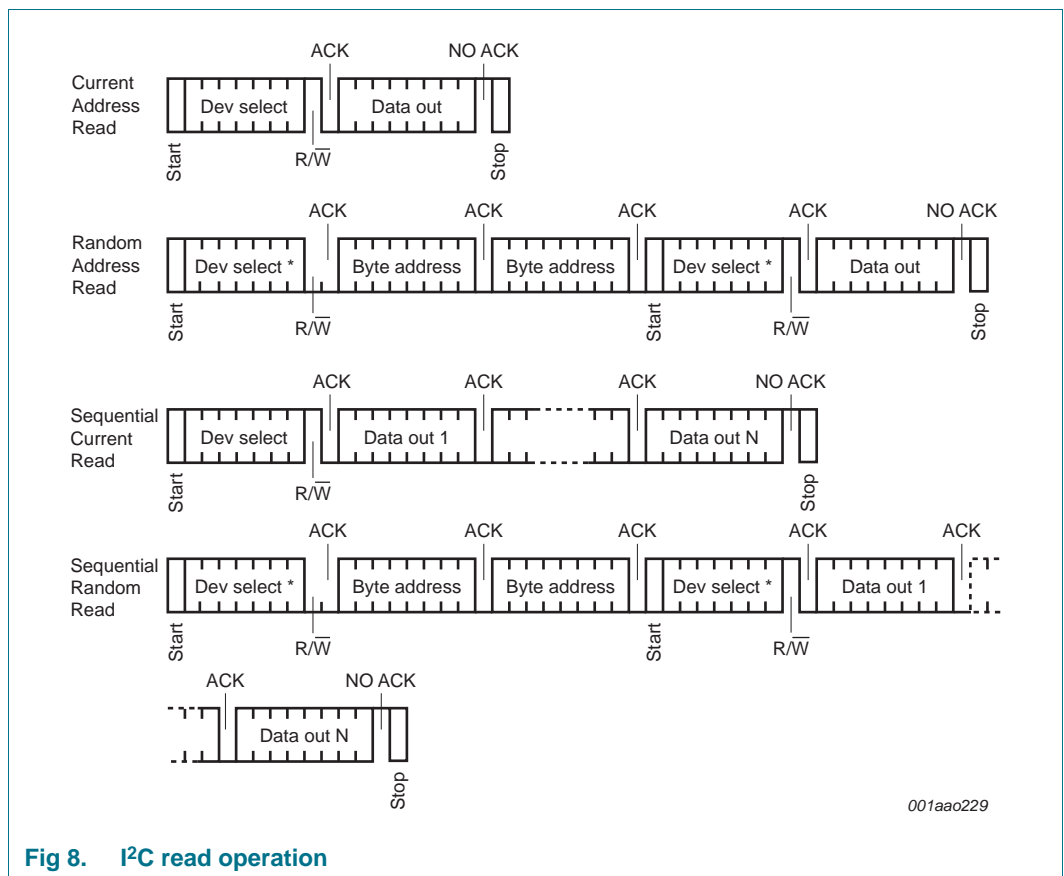

Fig 8. I2C read operation
A dummy Write is first performed to load the address into this address counter (as shown in Figure 8) but without sending a Stop condition. Then, the bus master sends another Start condition, and repeats the device select code, with the Read/Write bit (RW) set to 1. The UCODE I2C acknowledges this, and outputs the contents of the addressed byte. The bus master must not acknowledge the byte, and terminates the transfer with a Stop condition.
For the Current Address Read operation, following a Start condition, the bus master only sends a UCODE I2C select code with the Read/Write bit (RW) set to 1. The UCODE I2C acknowledges this, and outputs the byte addressed by the internal address counter. The counter is then incremented. The bus master terminates the transfer with a Stop condition, as shown in Figure 8, without acknowledging the Byte.
This operation can be used after a Current Address Read or a Random Address Read. The bus master does not acknowledge the data byte output, and sends additional clock pulses so that the UCODE I2C continues to output the next byte in sequence. To terminate the stream of bytes, the bus master must not acknowledge the last byte, and must generate a Stop condition, as shown in Figure 8.